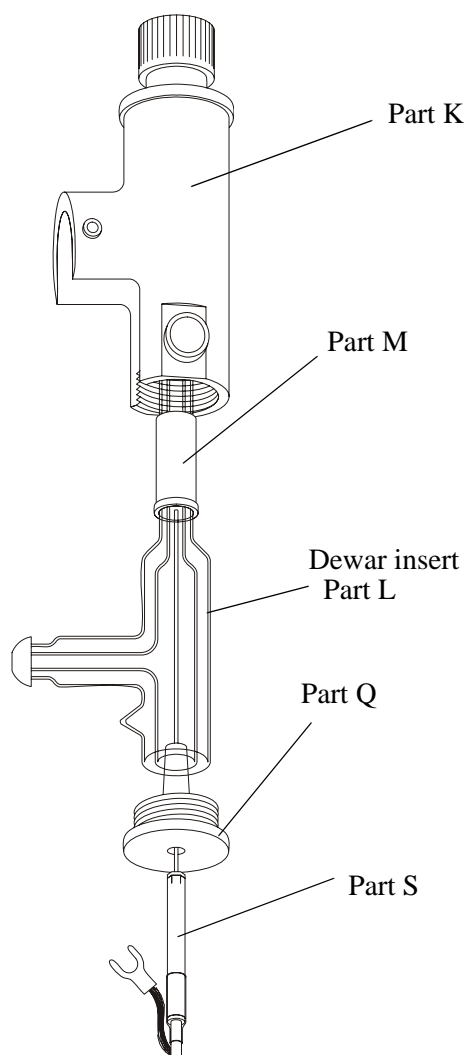

Figure 2-3 Assembling the cryostat for the type A kit.
1. **Insert the quartz dewar into the dewar insert holder.** (See Figure 2-3.) Slide the white plastic sleeve (**part M**) over the long neck of the dewar insert (**part L**) and place it into the dewar insert holder (**part K**).
2. **For the type A kit: thread the thermocouple mounting screw onto the cryostat body.** Thread the thermocouple mounting screw (**part Q**) onto the bottom of the dewar insert holder (**part K**). (See Figure 2-3.)